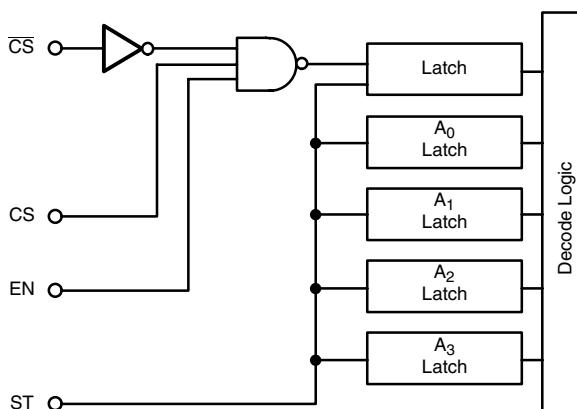

Figure 11. \bar{CS} , CS, EN, ST Control Logic
All four address inputs have on-chip data latches which are controlled by the Strobe (ST) input. These latches are transparent when Strobe is high but they maintain the chosen address when Strobe goes low. To facilitate easy microprocessor control in large matrices a choice of three independent logic inputs (EN, CS and \bar{CS}) are provided on chip. These inputs are gated together (see Figure 11) and only when $EN = CS = 1$ and $\bar{CS} = 0$ can an output switch be selected. This necessary logic condition is then latched-in when Strobe (ST) goes low.